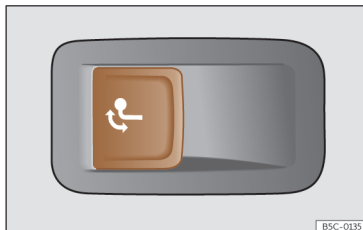

Fig. 201 Left side of the luggage compartment: button to unlock the tow hitch.
- Pull the >>> **Fig. 201** button briefly. The tow hook unlocks electrically and automatically turns outwards. The button's control lamp flashes.
- Pull the >>> **Fig. 201** button briefly. The tow hook unlocks electrically.
- Never press the button >>> **Fig. 201** when there is a trailer hooked to the vehicle or when a carrier system or other accessories are mounted on the tow hook.